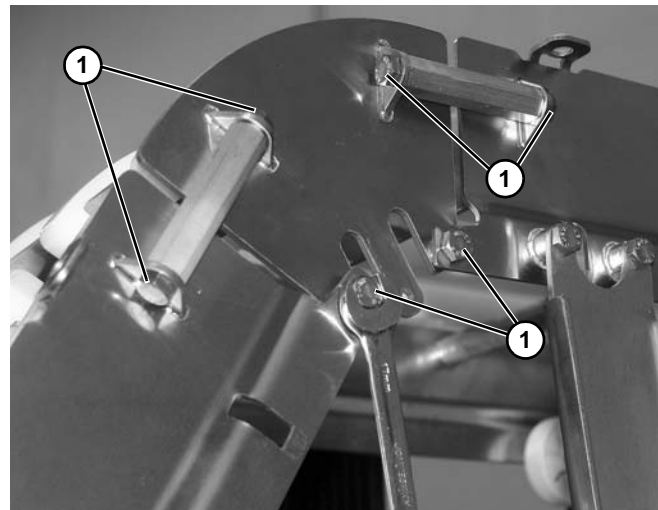

Figure 9
3. Tighten all screws (Figure 9, item 1) to 28-32 Nm (20-24 ft-lbs).